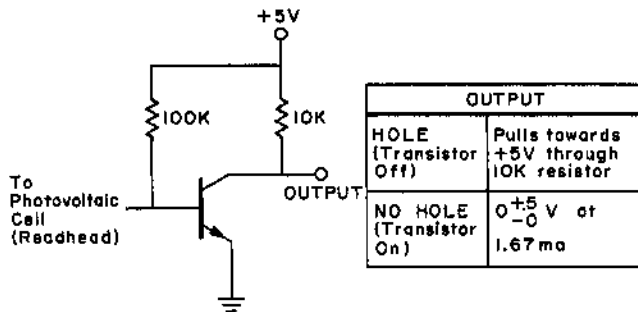

Figure 1-4. Typical Preamplifier Circuit, Simplified Schematic
**1.4.2.3 Readhead.** The built-in preamplifier circuits in the readhead require an operating voltage of  $+5 \pm 0.5$  volts at 60 milliamperes (total), with a maximum ripple of 0.1 volt. This voltage should be regulated to 0.1 volt (or 2%). The readhead outputs are at +5 volts (open circuit) for a hole condition, and between 0 and +0.5 volts at 1.67 milliamperes maximum for a no-hole condition. During a hole condition, the readhead amplifiers pull to +5 volts through a 10,000-ohm resistor (Figure 1-4).